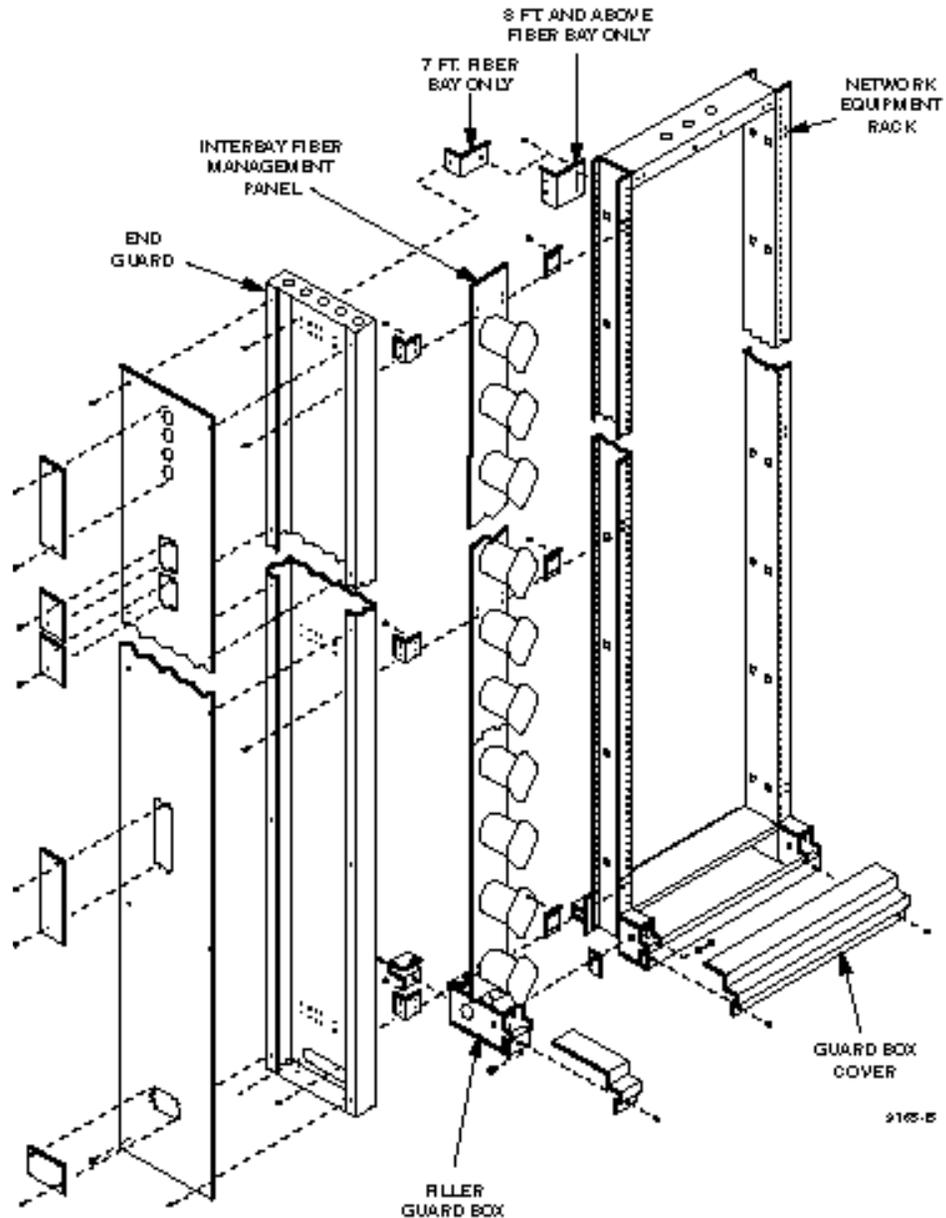

Figure 7-1. Interbay Fiber Management Panel and End Guard (7' Frame)
7.1.1 The Interbay fiber Management Panel (IMP), shown in Figure 7-1, provides storage between bays for cross-connect jumpers. In a multiple bay lineup, IMPs are normally located on each side of the lineup and between bays. To provide space for these panels, all bays must be spaced 5" (12.7cm) apart.
- 7.2.1 The end guard, also shown in figure 7-1, mounts on either side of a lineup. It gives the lineup a finished appearance, provides a channel for routing cables, and services as a mounting place for outlets and switches. The end guard is available for 12" and 15" footprints and may be attached to either end of the bay or IMP.